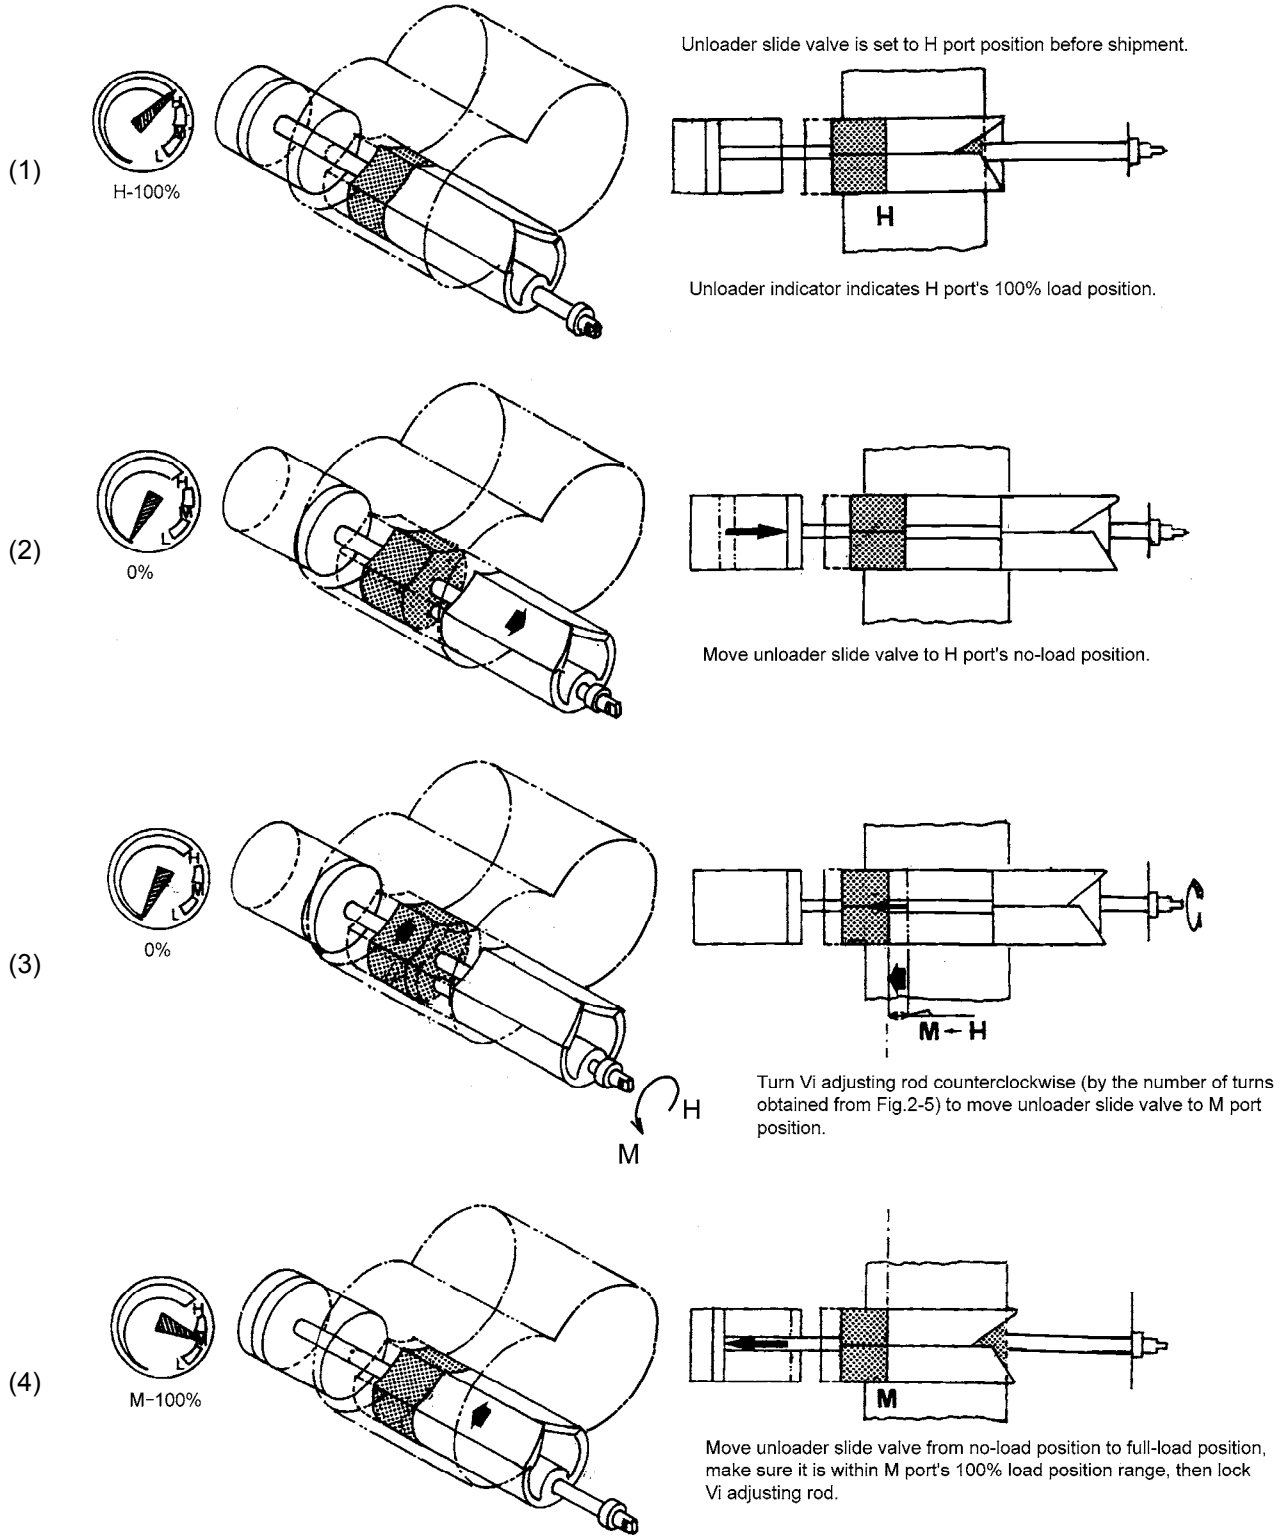

Fig. 2-4 Vi Changing Sequence from H Port to M Port
- Read the instructions in the following procedure while referring to Fig. 2-4.
- (1) First, determine the expected operating condition of the system and work out the Vi value under the condition thus determined (use the formula shown in 1.3.1 “What Is the Internal Volume Ratio Vi?” for the calculation). Next, select the L, M, or H port setting, whichever is the closest to the calculated Vi value. The compressor is set to the “H” port position before shipment.
- (2) Push the unloader piston (P/N 64) to move the unloader slide valve to the no-load (0 %) position (position shown in Sequence (2) in Fig. 2-4).
- b. Turn the Vi adjusting rod clockwise until it stops. The position where the rod stops corresponds to the H port position the setting before shipment. Do not turn the rod any further as applying undue force will break the rotation stopping mechanism. (This position corresponds to that in Sequence (2) in Fig. 2-4.)
- d. Turn the Vi adjusting rod counterclockwise by the number of turns determined in step (3). The Vi setting will be changed from the H port setting to the M port setting (as shown in Sequence (3) in Fig. 2-4).
- (5) Pull the unloader piston to move the unloader slide valve to the full-load (100 %) position (Sequence (4) in Fig. 2-4). If the pointer of the unloader indicator aligns with the 100 % graduation for the port in question on the dial, the Vi is correctly adjusted to that port. The M and H graduation marks are rather large in width. This is because there is a slight difference in indication of the M and H positions among the 13 compressor models, i.e. 160S/M/L, 200S/M/L, 250S/M/L/LL, and 320S/M/L, due to difference in rotor length. The setting may be considered correct if the needle indicates any point in the width of the graduation mark.